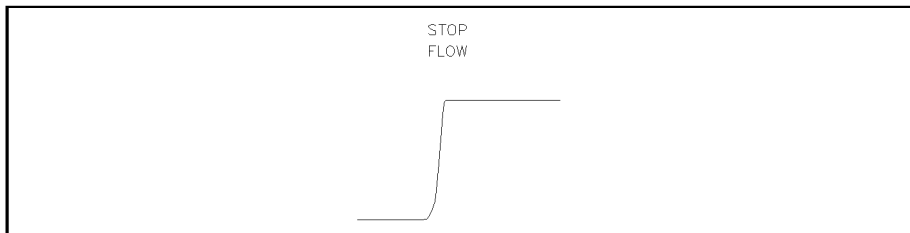

Figure 1-3. First Peak Trapped in Flow Cell
3. Allow the pressure to equilibrate. The first peak is now trapped in the cell, see Figure 1-3.